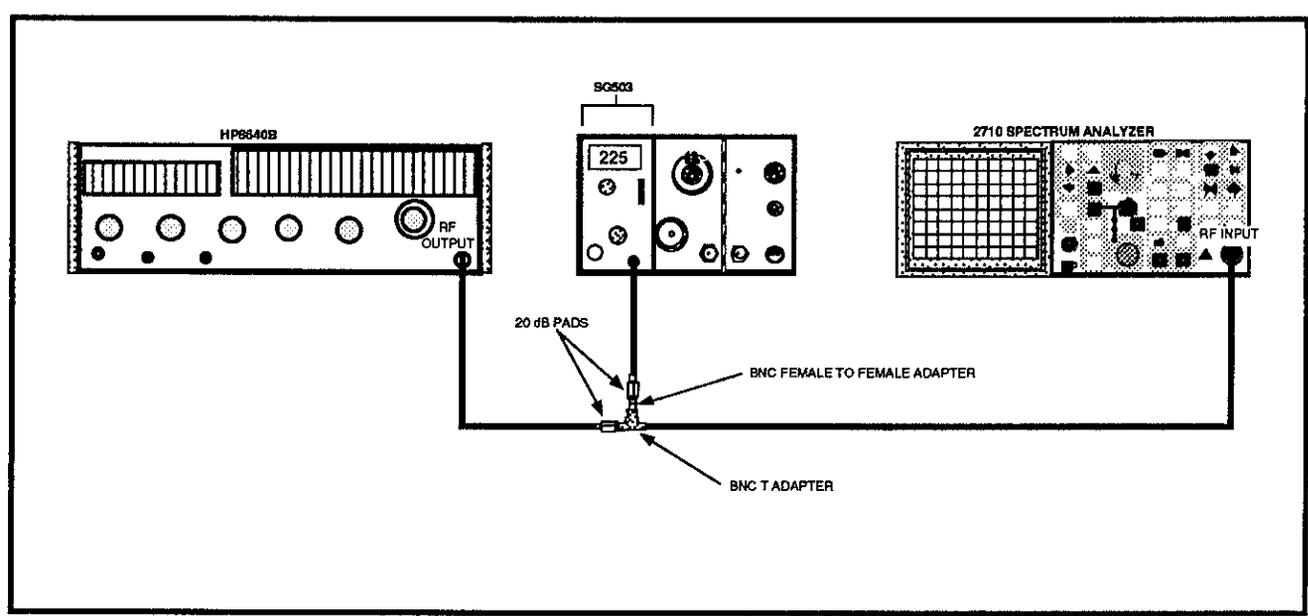

Figure 3-1. 3rd Order IM (25 MHz Separation)
- a. Connect the test equipment as shown in Figure 3-1.